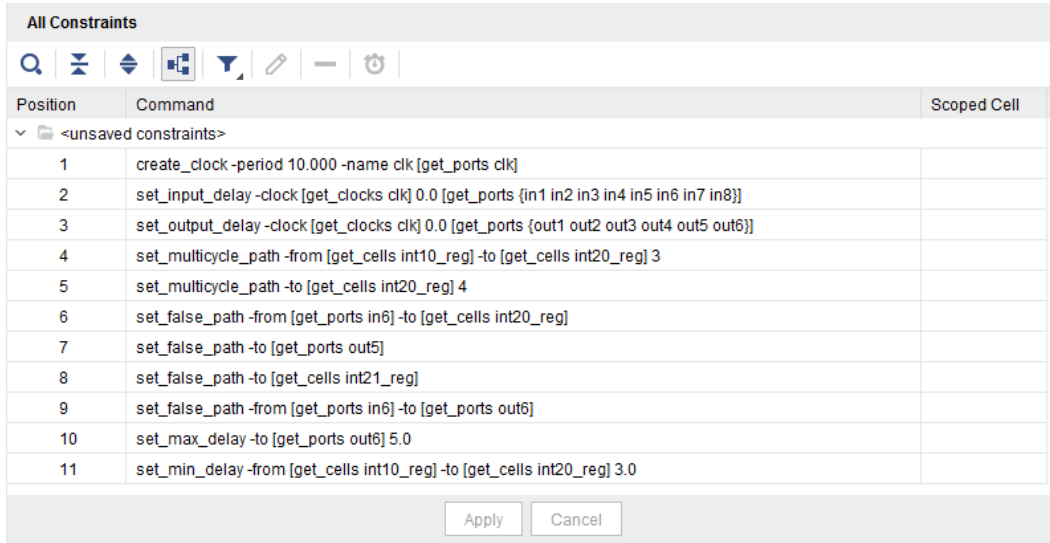

Figure 2-29: Constraints Window Displaying Timing Constraint Changes
- The Position column indicates the constraint position number. This is the same position number reported by the Timing Constraint Window, shown in Figure 2-29.